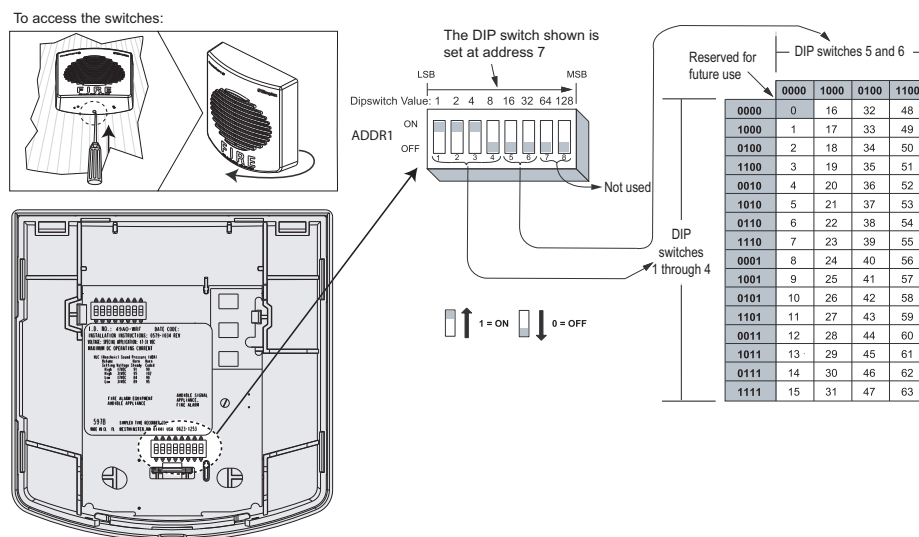

Figure 3. Setting the DIP switch address
1. Insert a number 1 or number 2 Phillips screwdriver, or a similar sized object, into the opening at the bottom of the appliance and unclip the appliance from the backplate. See *Figure 3*.